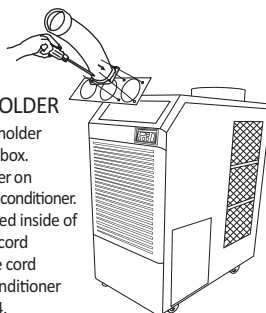

Figure 5
3. Use screws enclosed inside of box with cool air outlet hose(s) to install the cool air outlet hose(s) on the air conditioner as shown in Figure 5.
3. Use screws (enclosed inside of box with the top fan exhaust flange) to install the top fan exhaust flange on air conditioner as shown in Figure 5.